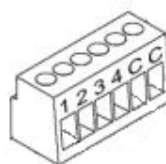

Figure 1.3. Inputs connection terminal block
**Programming button:** a short press on this button set the sensor in programming mode, and the associated LED (2) lights red. If this button is held while plugging the device into the KNX bus, QUAD goes into secure mode. The LED blinks red.
**Inputs connection:** the terminal block with screws must be plugged here (see figure 1.3) to allow connecting the different QUAD inputs (from 1 to 4). For a proper functioning, the terminals of the elements to be connected to the QUAD inputs (push button, switch, temperature probe or movement sensor) must be plugged to the corresponding input (connection points 1 to 4) and to any of the two common connection points, identified with the letter "C" in the terminal block, which are internally connected, so either of them can be used.